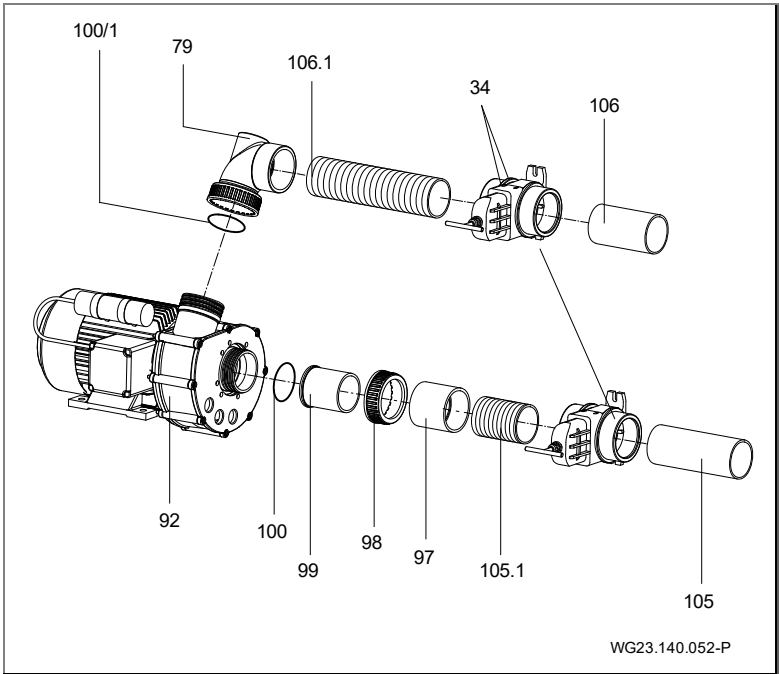

Fig. 21
13. Primavera: Mount the cap for the volume (21/1) and air regulator (111) by means of a rubber mallet and a protective cloth. (Fig. 21)